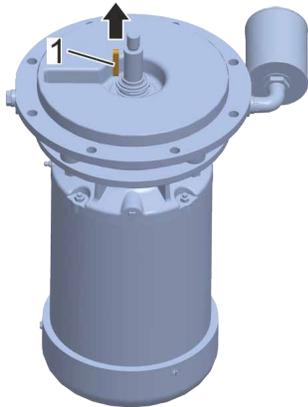

Fig. 75 Key in the motor shaft
34. Remove the key (Fig. 75/1) from the motor shaft and put to one side for later assembly.